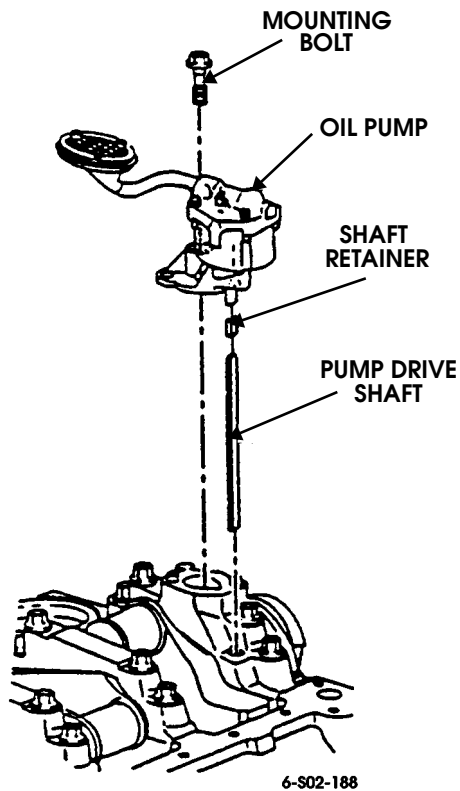

Figure 2-115: Oil Pump Removal/Installation
1. Remove nut from pump mounting stud (Figure 2-115).